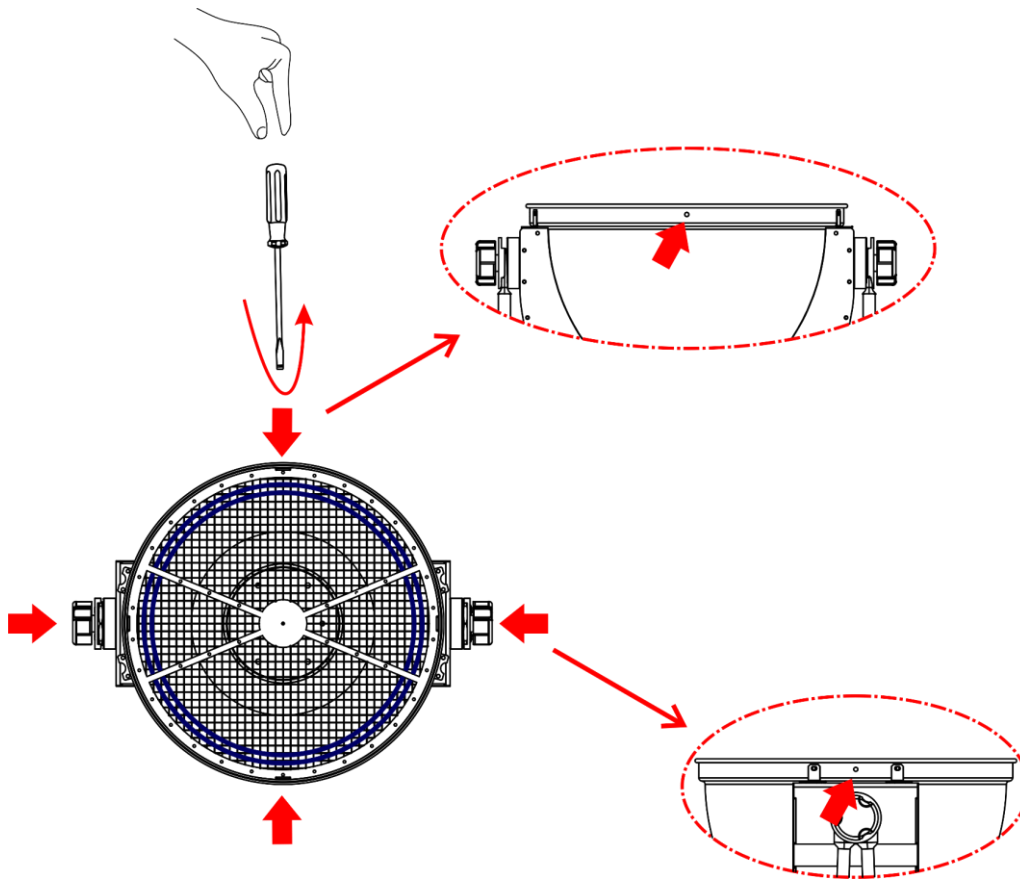

Fig. 03
- 02) Remove the 4 screws at the top of the fixture (Fig.03).